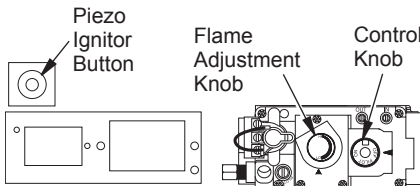

Figure 38 - Control Knob and Ignitor Button Location (Shown as Supplied - No Control Options)
- Press in and turn control knob clockwise  to the OFF position (see Figure 38, page 24).
- Wait five (5) minutes to clear out any gas. Then smell for gas, including near the floor. If you smell gas, **STOP!** Follow "B" in the safety information, column 1. If you don't smell gas, go to the next step.
5. Press in and turn control knob counterclockwise ↶ to the PILOT position. Press in control knob for five (5) seconds (see Figure 38).